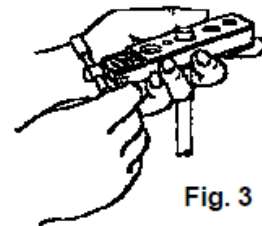

Fig. 3
6. Advance the clamp screw against the end segment and tighten firmly. (See Fig. 3.)